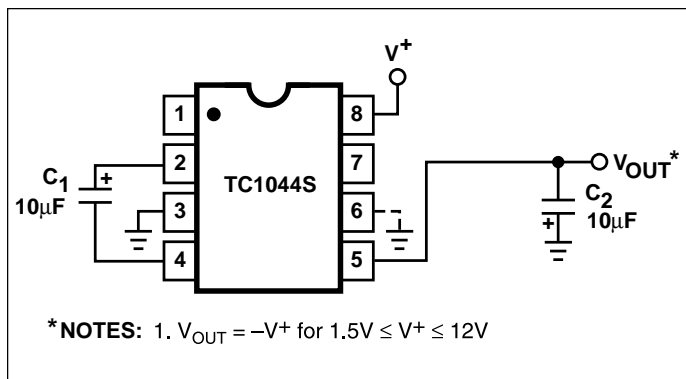
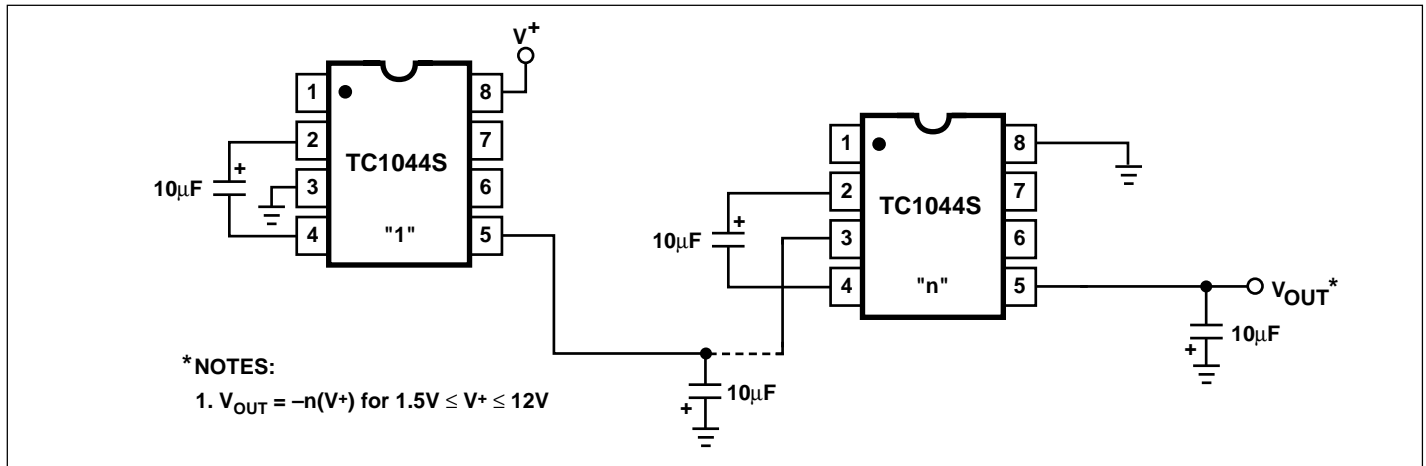
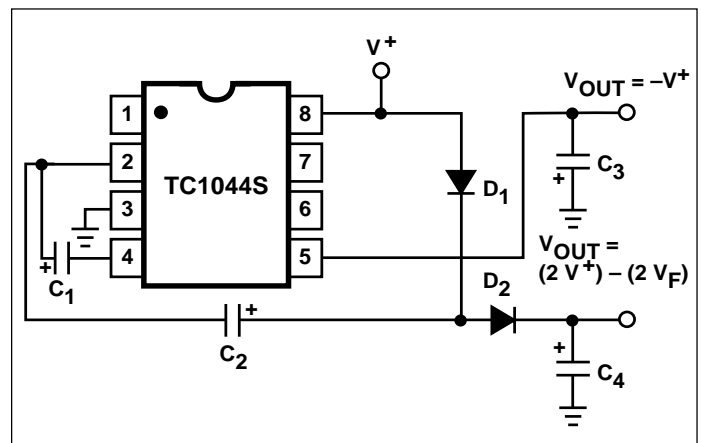
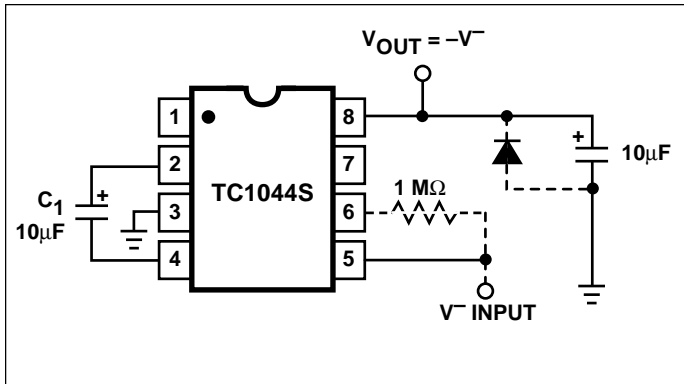

Figure 3. Simple Negative Converter
Figure 5. Increased Output Voltage by Cascading Devices
Figure 9. Combined Negative Converter and Positive Multiplier
Figure 10. Positive Voltage Conversion
Figure 3 shows typical connections to provide a negative supply where a positive supply is available. A similar scheme may be employed for supply voltages anywhere in the operating range of +1.5V to +12V, keeping in mind that pin 6 (LV) is tied to the supply negative (GND) only for supply voltages below 3.5V.
The output characteristics of the circuit in Figure 3 are those of a nearly ideal voltage source in series with 70Ω . Thus, for a load current of $-10mA$ and a supply voltage of +5V, the output voltage would be $-4.3V$.
The TC1044S may be cascaded as shown (Figure 5) to produce larger negative multiplication of the initial supply voltage. However, due to the finite efficiency of each device, the practical limit is 10 devices for light loads. The output voltage is defined by:
Figure 9 combines the functions shown in Figures 3 and 8 to provide negative voltage conversion and positive voltage multiplication simultaneously. This approach would be, for example, suitable for generating +9V and -5V from an existing +5V supply. In this instance, capacitors C_1 and C_3 perform the pump and reservoir functions, respectively, for the generation of the negative voltage, while capacitors C_2 and C_4 are pump and reservoir, respectively, for the multiplied positive voltage. There is a penalty in this configuration which combines both functions, however, in that the source impedances of the generated supplies will be somewhat higher due to the finite impedance of the common charge pump driver at pin 2 of the device.
Since the switches that allow the charge pumping operation are bidirectional, the charge transfer can be performed backwards as easily as forwards. Figure 10 shows a TC1044S transforming -5V to +5V (or +5V to +10V, etc.). The only problem here is that the internal clock and switch-drive section will not operate until some positive voltage has been generated. An initial inefficient pump, as shown in Figure 9, could be used to start this circuit up, after which it
will bypass the other (D_1 and D_2 in Figure 9 would never turn on), or else the diode and resistor shown dotted in Figure 10 can be used to "force" the internal regulator on.
The same bidirectional characteristics used in Figure 10 can also be used to split a higher supply in half, as shown in Figure 11. The combined load will be evenly shared between the two sides. Once again, a high value resistor to the LV pin ensures start-up. Because the switches share the load in parallel, the output impedance is much lower than in the standard circuits, and higher currents can be drawn from the device. By using this circuit, and then the circuit of Figure 5, +15V can be converted (via +7.5V and -7.5V) to a nominal -15V, though with rather high series resistance (~250 Ω).